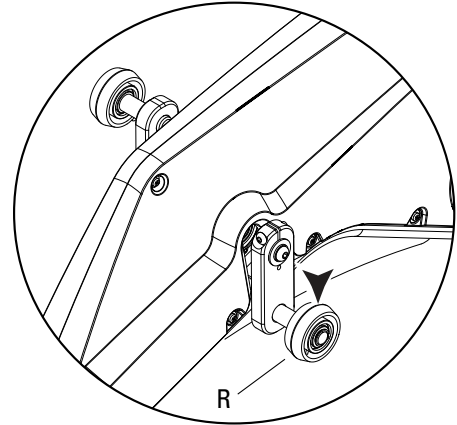

Figure 6a
6-1 Rotate the Crank Arm until the roller (R) is at its lowest position (Figure 6a).